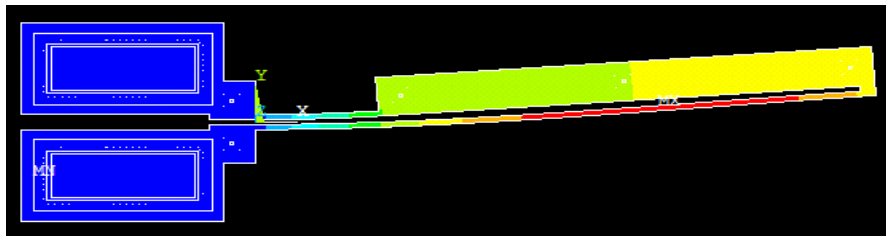

Figure 169: Plotting Transformation.
- ☑ Click **Front**. The corresponding graph is displayed as shown in (Figure 169).